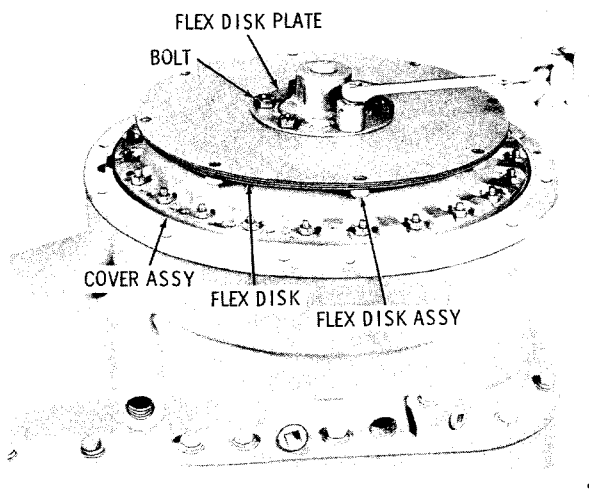

Fig. 5-8. Removing flex disk bolts
(1) Remove the six self-locking bolts and plate which retain the flex disk assembly (fig. 5-8). Remove the flex disk assembly.
(2) Remove twenty-four self-locking nuts which retain the torque converter cover assembly (fig. 5-8).
(3) Remove the converter cover 5 or 11 (B, foldout 5) and sealring 12.
(4) On models which use converter cover 5, remove sealring 3, twenty-four nuts 4, cover 5 and sealring 12.